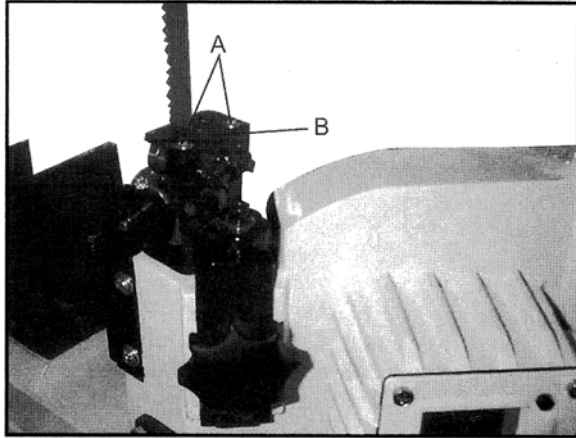

Figure 4
3. Remove two screws (A, Figure 4) and remove deflector plate (B, Figure 4).